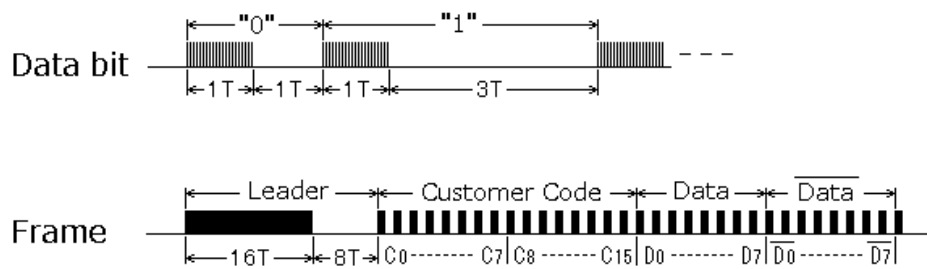

Figure 4.23.3.1 Signal Waveform in NEC Format
1. The following, for example, shows the outline of the NEC format specifications and Figure 4.23.3.1 shows the signal waveforms.